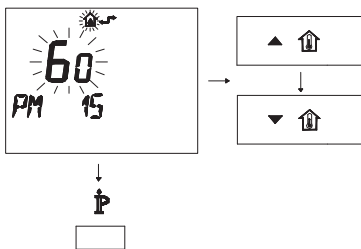

Fig. 7.14
- Modify the programmed SET by acting on buttons ▲ ⏶ or ▼ ⏶ until a **setting of 60** is displayed, wait for the number programmed to flash (Fig. 7.14)